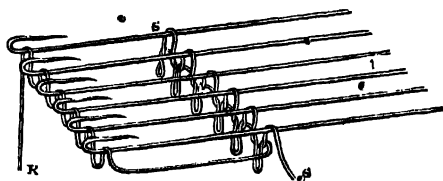
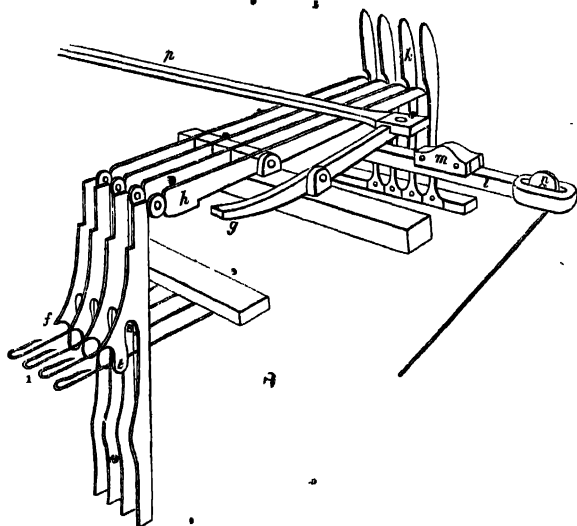

Figure 3.
Figure 4.
Figure 3 represents a single thread (R) formed
The *jack-sinkers* being elevated so as to bring their *nips* (*f*) above the level of the needle, the thread is loosely thrown under these nips. Now it is obvious that on lowering the jacks a series of loops will be formed (see figure 3); but if the jacks were all lowered at once there would be danger of destroying the thread, an accident which is avoided by a very ingenious contrivance. A straight iron bar (*l*, figure 4), called the *slur-bar*, is extended beneath all
the frame, the workman next depresses the lead-sinkers all at once, and their nips (*ff*) carry down the thread between the remaining needles in loops. While this is being done, the jack-sinkers are made to rise up as much as the lead-sinkers are depressed; thus making all the loops throughout of the same size, and forming a loop between every two needles. This row of loops is next driven back upon the needles, (to S S Fig. 3,) so as to come below the arch or opening of the sinkers, (S S Fig. 4 and 5.) Here the loops are entirely removed from the action of the sinkers, and the workman proceeds to form a new row in front of the former, by a repetition of the process already described. This second row of loops is then brought forward, so as to be under the barbs or hooks of the needles. The presser-bar is next made to close